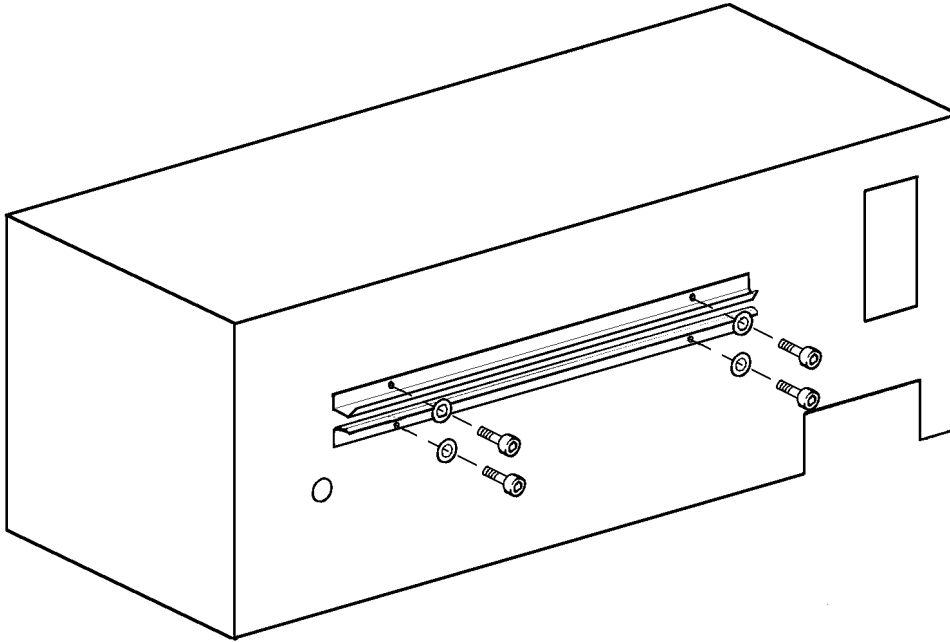

figure 3
8. Install the LOWER GUIDE 9191971 and the UPPER GUIDE 91191972. Use four SCREWS 4283351 with four WASHERS 4470100. See figure 3.